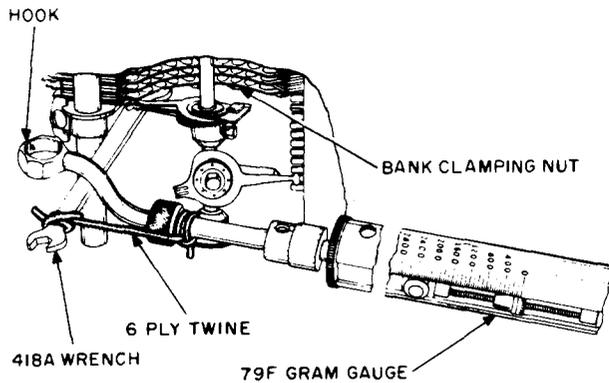

Fig. 6—Method of Checking for Tightness of Bank Clamping Nuts on Nonmechanized Banks Using 418A Wrench and 79F Gram Gauge
- (1) If the R-2771 spring balance is used, apply the hook $\frac{3}{8}$ inch from the free end of the 418A wrench or 2 inches back of the free end of the KS-8237 wrench. If the 79F gauge is used, tie the hook end of the gauge to the 418A or KS-8237 wrench with a piece of 6-ply twine as shown in Fig. 6. Hold the wrench in position on the nut and gradually pull the gauge at right angles to the shank of the wrench as shown in Fig. 6 (in the direction to tighten the screw), until the reading of the R-2771 spring balance is 4 to 4-1/2 pounds. If the 79F gauge is used, the reading should be between 1800 and 2050 grams. Take care that the wrench does not slip